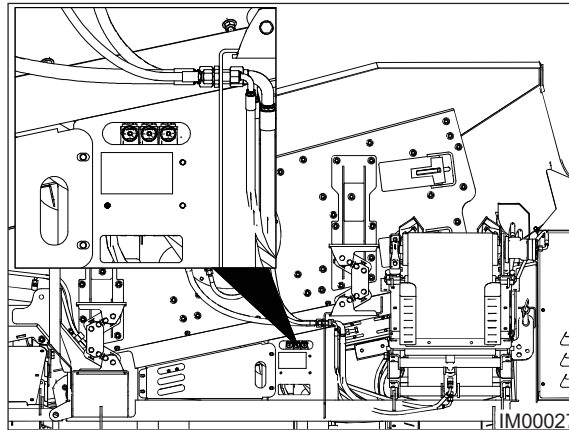

Fig: 10.2 - Control Levers
3. Proceed to the control levers located on the left-hand side of the machine (Fig: 10.2).